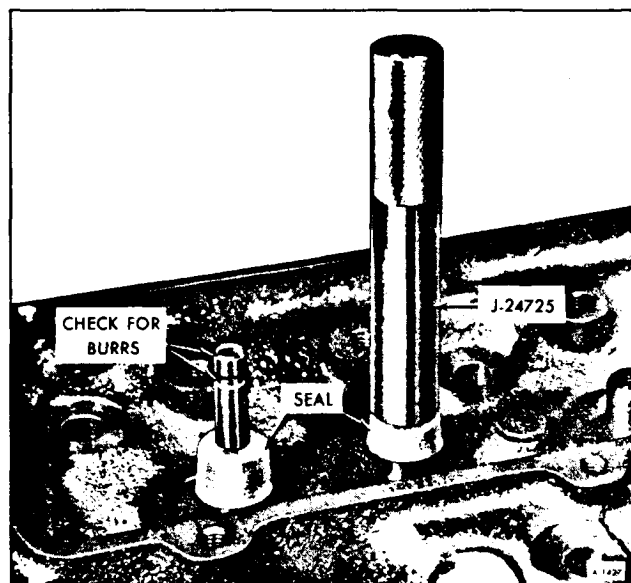

Figure 25—Valve Seal Installation
2. Install new oil seals over valve stem, using Tool J-24725. See Figure 25.